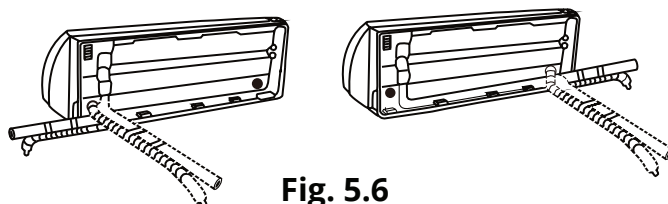

Fig. 5.6
The refrigerant piping can exit the indoor unit from four different angles: left-hand side, left rear, right-hand side, and right rear. Refer to Fig. 5.6 below for more details.
4. Grip the refrigerant piping of the indoor unit at the base of the bend. Then, slowly and with even pressure, bend the piping to the orientation selected for it to exit the unit (Refer back to Fig. 5.6).